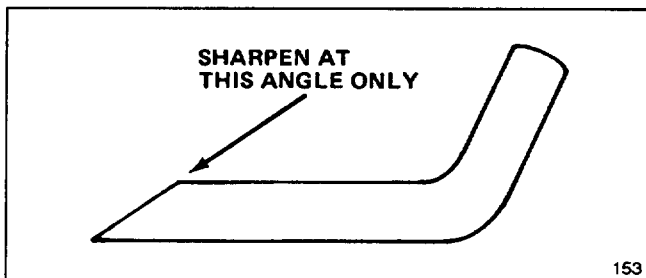

Figure 25
6. **SHARPENING BLADE**—Using a file, sharpen top side of blade and maintain original cutting angle (Fig. 25). The blade will remain balanced if same amount of material is removed from both cutting edges.